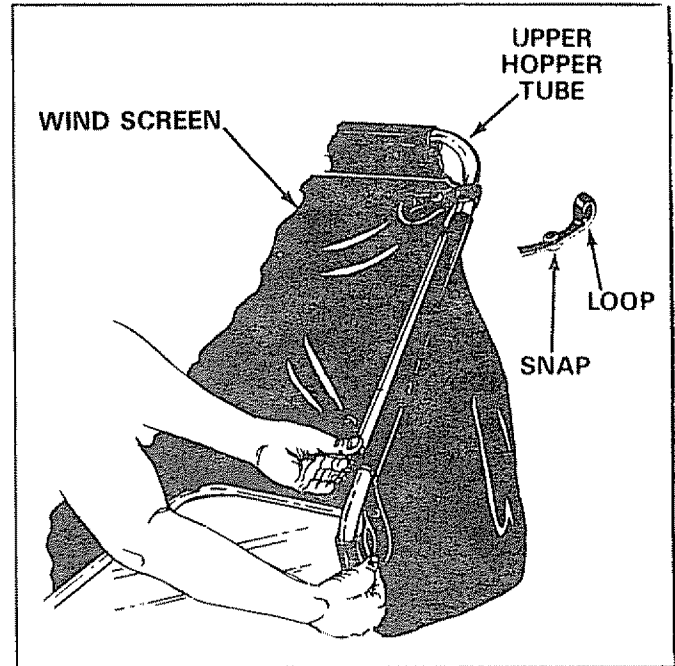

FIGURE 26
17. Assemble the wind screen to upper hopper tube. Pull the four corner loops and snap. See figures 26 and 27. Double wrap back loops around tube for tight fit.